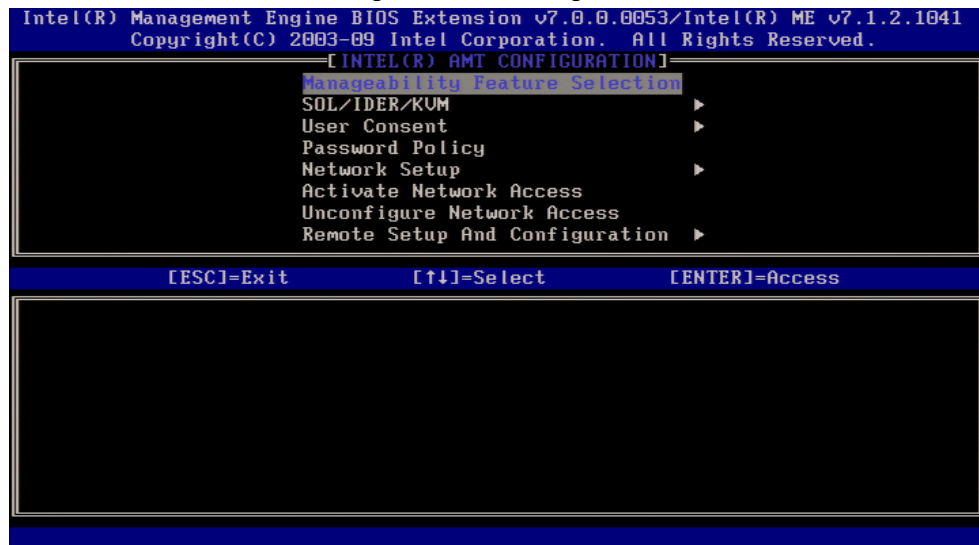

Figure 8. Intel AMT Configuration Screen
9. Go into the Intel AMT Configuration menu (Figure 8).